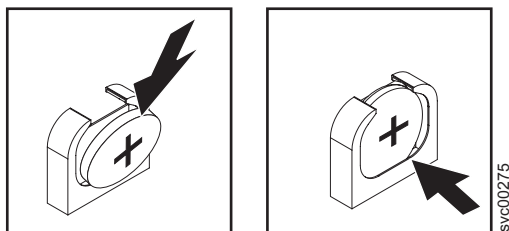

Figure 142. SAN Volume Controller 2145-CF8 CMOS battery holder
- b. Press the battery across into the socket until it clicks into place. Make sure that the battery clip holds the battery securely, as shown in Figure 142.